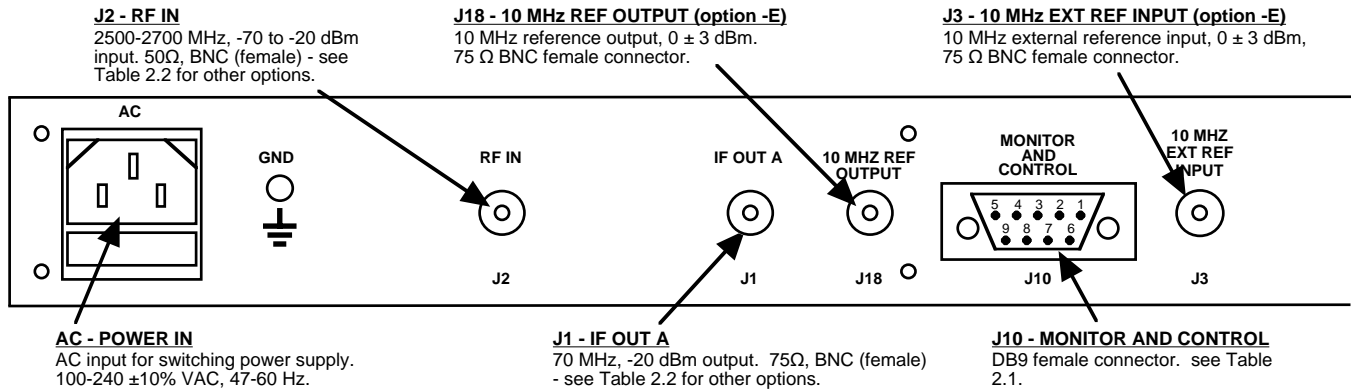

FIGURE 2.2 2016-27 Downconverter Rear Panel Inputs/Outputs
2.2 Rear Panel Input/Output Signals - Figure 2.2 shows the input and output connectors on the rear panel.
1. Connect a -20 dBm to -70 dBm signal to RF In, J2 (Figure 2.2)
Alarm indications appear on the LEDs (see figure 2.2).